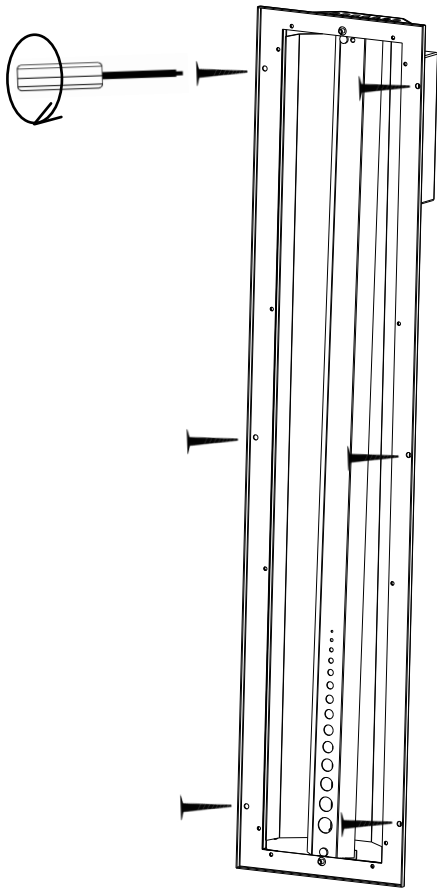

Fig. 7 **Position of the screws**
8. Screw the infrared heater tight to the cabin wall using the wood screws (3 x 40 mm) provided. See Figure 7.